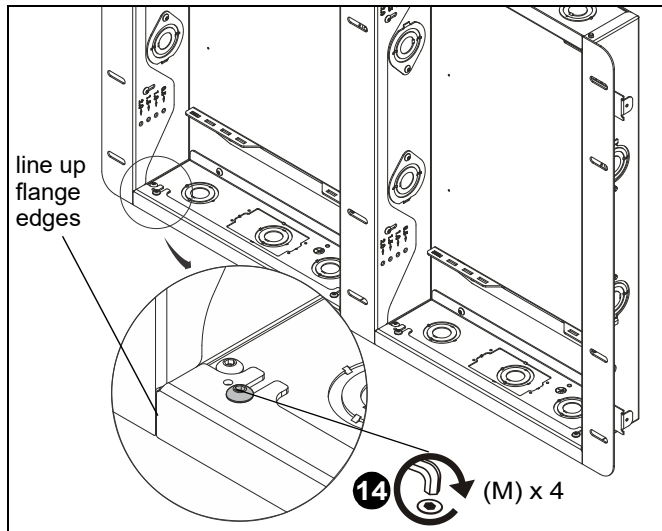

Figure 8
15. Tighten all screws (M) to secure top/bottom flanges (E), side flanges (C) and saddle flanges (D) making sure all flange edges are lined up. (See Figure 8)